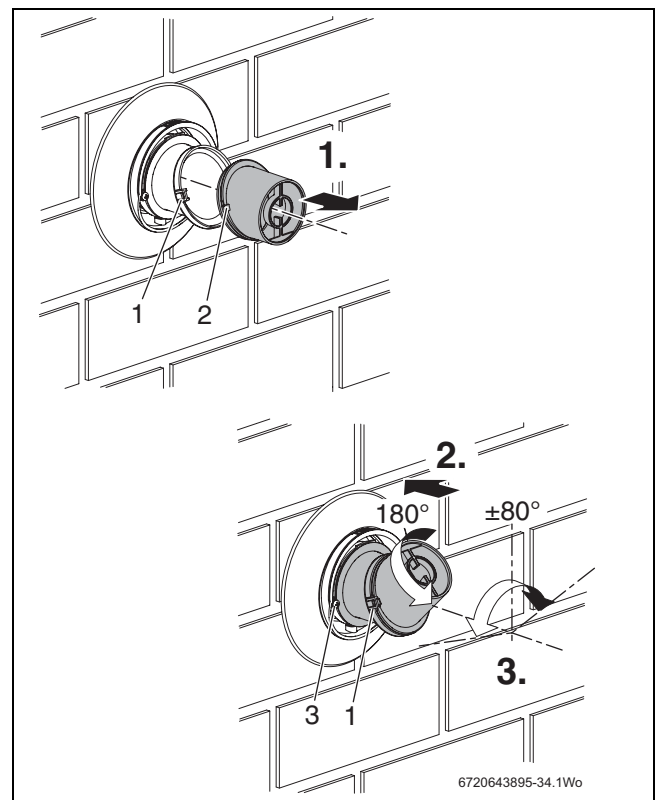

Fig. 43 Plume redirection
1. Refit to the terminal, ensuring that the clips (1 & 2) in Fig. 43 are engaged and secure.
2. Loosen screws (3) and rotate the entire outlet assembly to redirect the plume. Tighten screws (3) to secure in the required position.